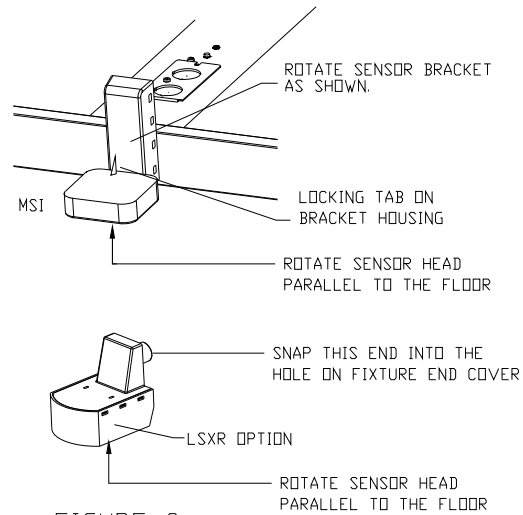

FIGURE 3:
- 3) Align the sensor head to where it faces the floor. **SEE FIGURE 3.**
- 4) Make sure the sensor bracket assembly is rotated in the position shown. **SEE FIGURE 3.**